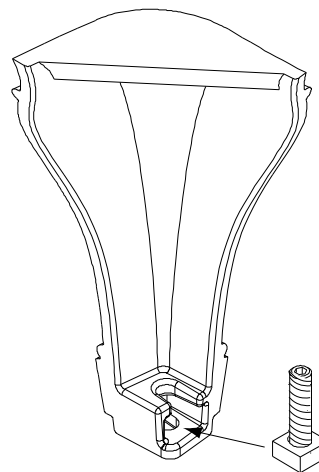

Figure 25.3
9. Slide Allen bolt/nut assemblies into slots of two of the legs with the nuts on the bottom (Figure 25.3 and 25.4).